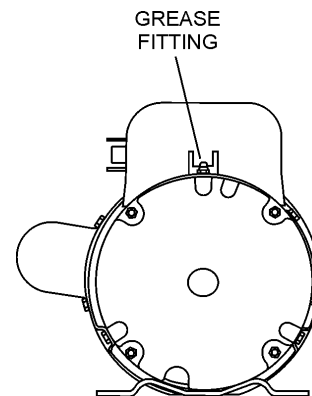

Figure 38. Grease Fittings (Electric Motor)
1. There are **two** grease (Figure 38) fittings at each end of the electric motor that will require lubrication. Lubricate these fittings about **every 16 months**.